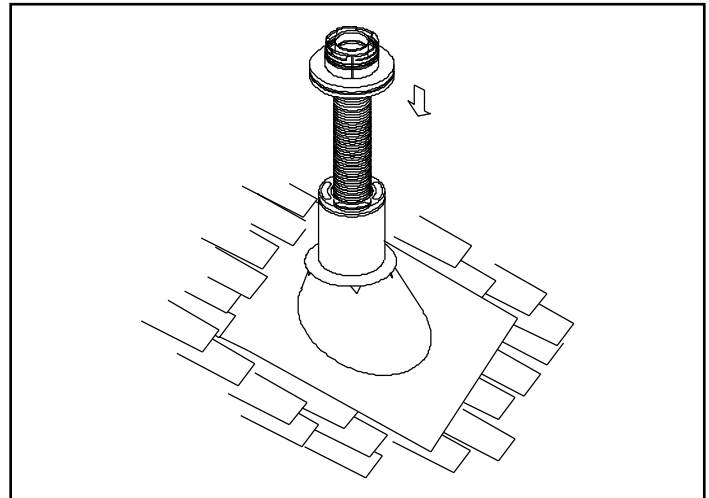
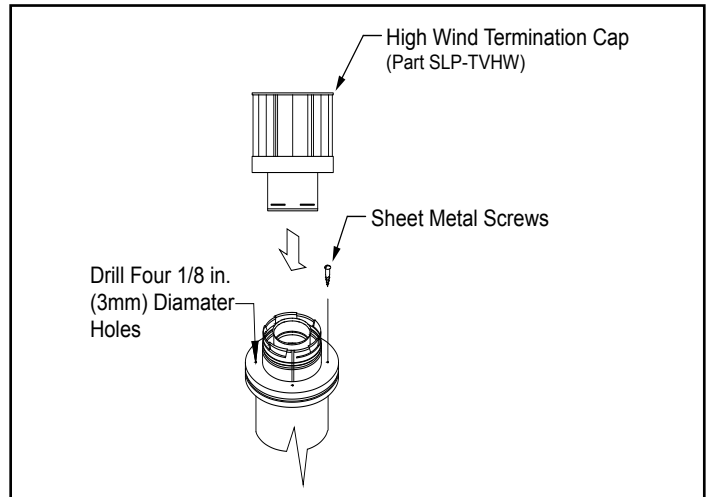

Figure 4.20
Figure 4.21
4. Pass the flex pipe down through the center of the chimney system, and center the top adapter on the top of the chimney pipe. Drill four 1/8 in. (3mm) diameter holes through the top adapter, and into the chimney top. Ensure that you are drilling into the metal on the chimney. Twist lock the high wind termination cap onto the top adapter. See Figure 4.20 and Figure 4.21.